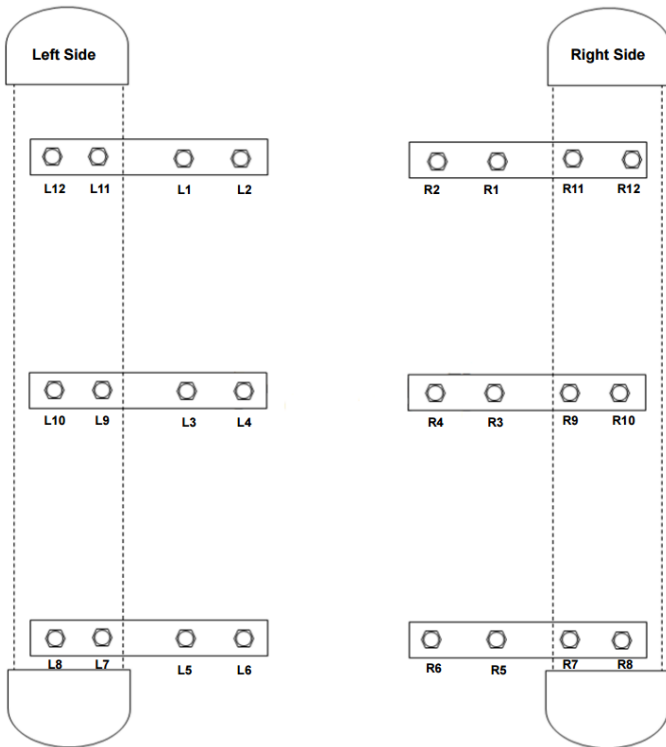

FIG 2
- 5) Torque fasteners in order shown in **FIG 2**.